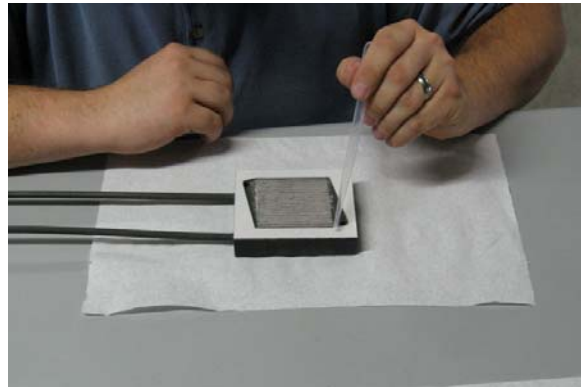

Figure 3
- o Make certain to apply seals to both manifolds before moving to Step 3(Figure 3)